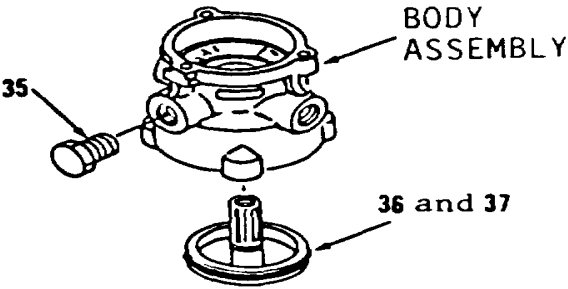
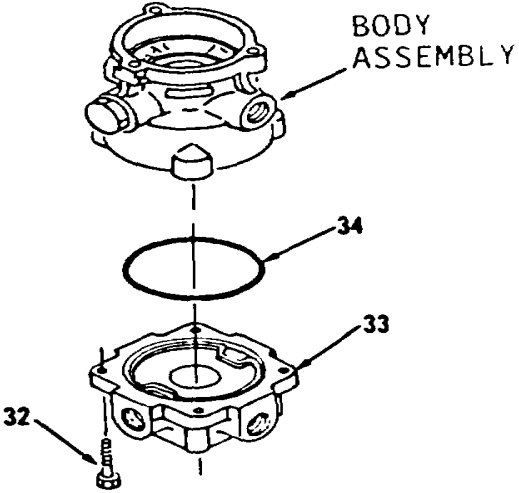

Figure 6-39.
Figure 6-38.
- 7. Install items 37 and 36 as an assembly (Figure 6-39) into body assembly.
- 8. Install plug (35) into body assembly.
- 9. Install new preformed packing (34), housing (33) and four screws (32, Figure 6-38) to body assembly.